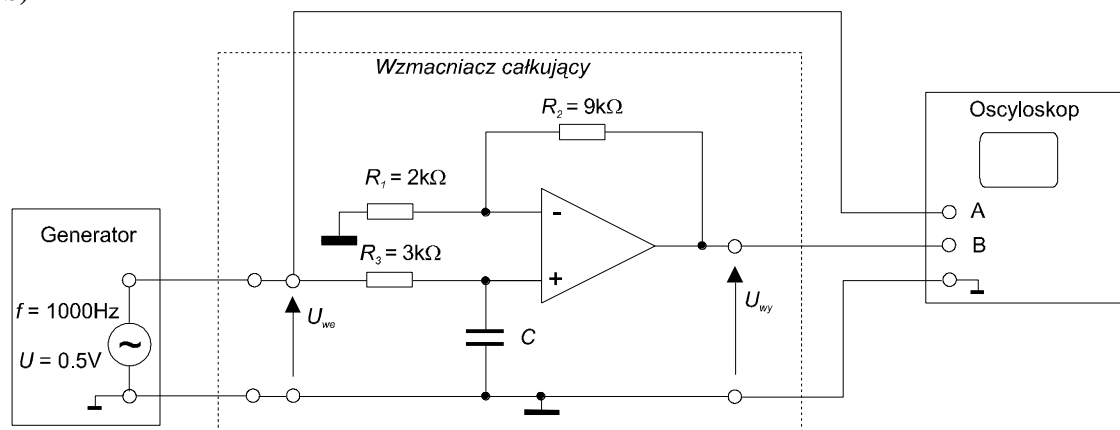

Fig. 9.3.4. The integrator test system a) on the inverting input, b) on the non-inverting input.
- Connect one of the measuring systems from Fig. 9.3.4. (according to the instructor's instructions). Redraw the integral circuit diagram. At the input of the integrator, give the generator a sinusoidal signal with an amplitude $U_{we} = 0.5\text{ V}$ and frequencies: